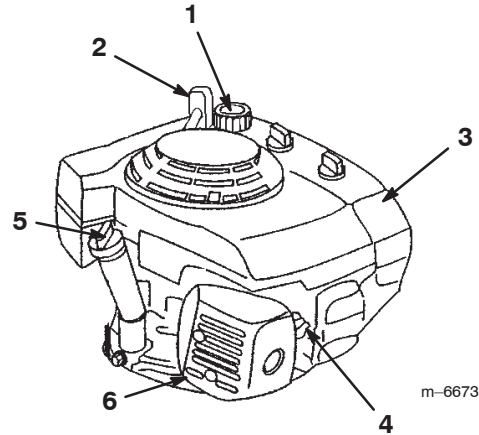

Figure 7
1. Clean around the fuel tank cap (Fig. 7).
1. Connect the wire to the spark plug (Fig. 7).